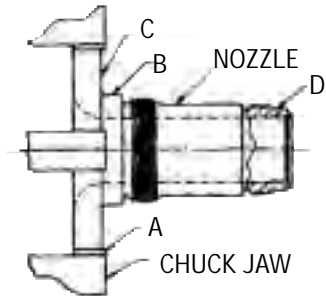

FIGURE 20
The nozzle should be removed from the valve to be machined (see Figure 20). See Nozzle Removal Instructions in Section XIV.B, and Figures 12 and 13. If it can not be removed from the base, it should be machined inside the base.
- a. Grip the nozzle in a four-jaw independent chuck, using a piece of soft material such as copper or fiber between the jaws and the nozzle as shown at A in Figure 20.